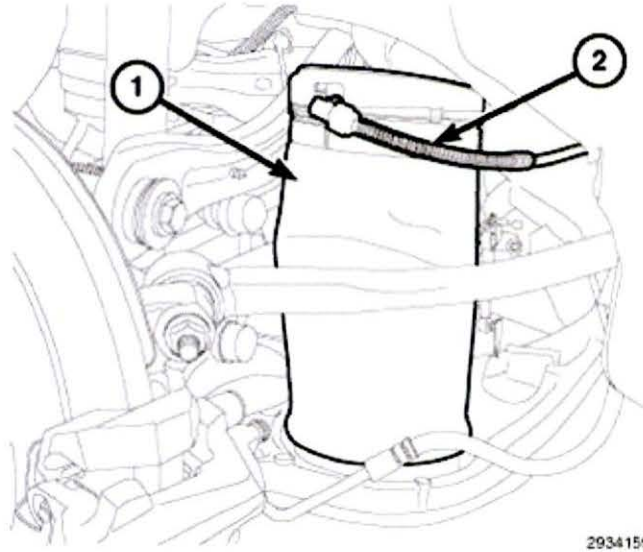

Fig. 1 Air Spring
8. Disconnect the left rear air spring line(Fig. 1).
18. Disconnect the right rear air spring air line (Fig. 1).